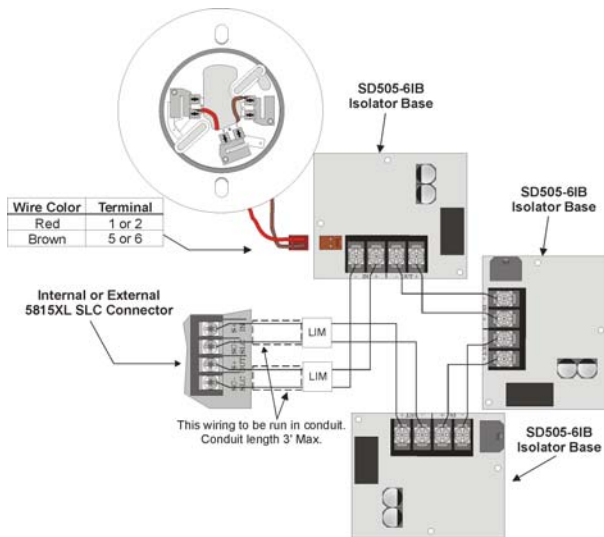
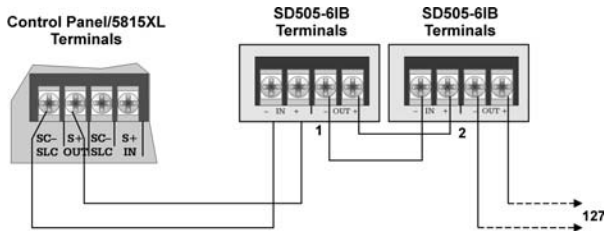
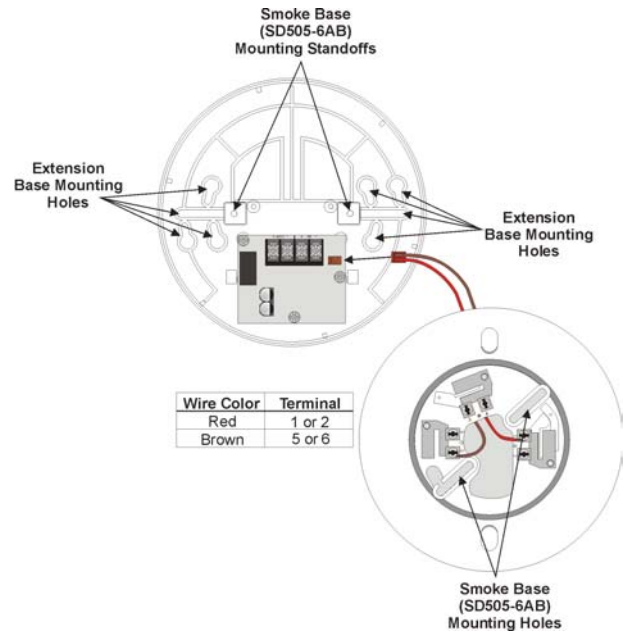

Figure 3: Class A (Style 7) Wiring for SLC loop
Figure 4: Class B (Style 4) Wiring for SLC Loop
Figure 5: SD505-6IB Mounting
The SD505-6IB connections for the SLC loop internal and external are the same. Wire as shown in Figure 3 or Figure 4. Notice that “Out Terminals” wire to “In Terminals”.
1. Mount the extension base using the #8 1-1/2 screws through the extension base mounting holes. (See Figure 5.)
2. Wire the SLC loop as shown in Figure 3 or Figure 4.
3. Connect wiring harness to the smoke base as shown in Figure 5.
4. Plug wiring harness into harness connector. Refer to Figure 3 and Figure 5.
5. Attach the smoke base (P/N SD505-6AB) to extension base (P/N 120505) using the #8 1/2". (See Figure 5.)